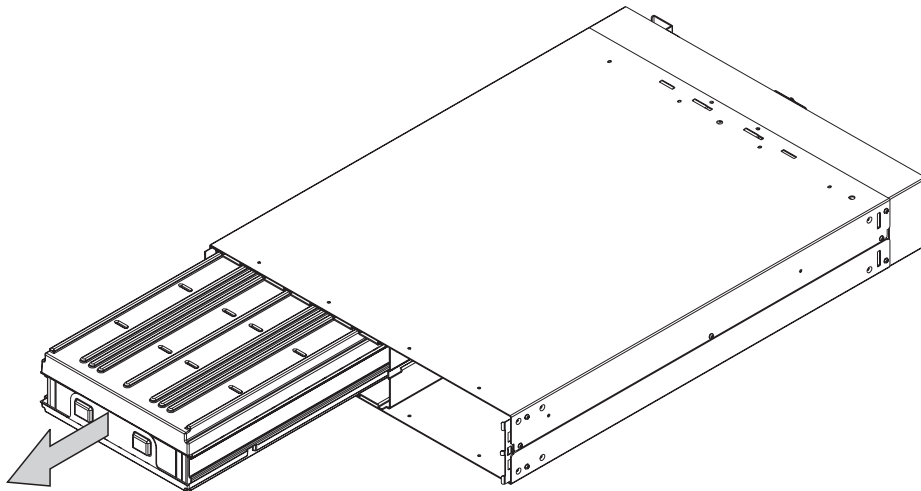

Figure 179. Removing the 2145 UPS battery
4. Remove the battery plate, to access to the battery. See Figure 179.